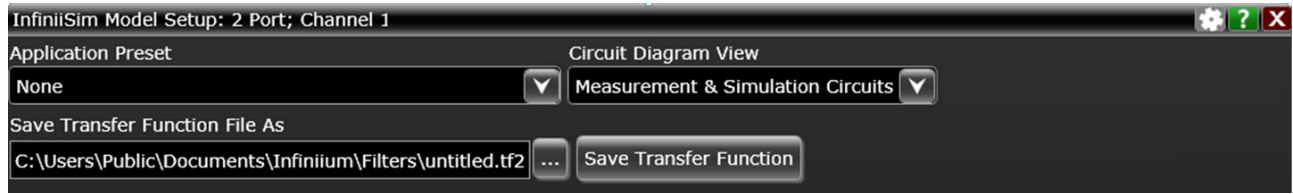

Figure 12 InfiniiSim Model Setup screen- 2 Port Channel 1
- 7 Select **General purpose 9 blocks** from the **Application Preset** drop-down menu (see Figure 12) and enter the name of the transfer function you are going to create. To add the file name, either you can click to browse or enter the entire path and name of the file. For additional details about the model, see **"About the General Purpose 9 Block Model"** on page 27.